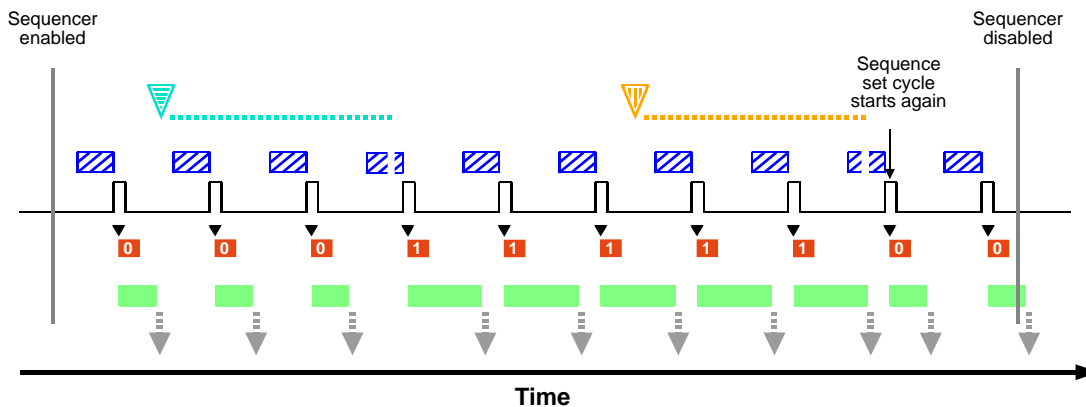

Fig. 115: Sequencer in Controlled Sequence Advance Mode with the SequenceControlSource Set to Disabled and Asynchronous Advance and Restart
The following use case (see also Figure 115) illustrates the operation of the sequencer in controlled sequence advance mode with the SequenceControlSource set to Disabled. Sequence set advance proceeds in ascending sequence set index numbers subject to asynchronous advance commands. After one sequence set cycle is complete, another one starts. Sequence set cycle restarts are subject to asynchronous restart commands.
- When the AsyncAdvance command becomes effective, the camera happens to be in "waiting for frame start trigger" status. The parameter values of the next sequence set, i.e. of sequence set 1, are loaded into the active set. Note that the camera briefly exits the "waiting for frame start trigger" status while the parameter values of sequence set 1 are loaded into the active set (see also Figure 115).
- When the AsyncRestart command becomes effective, the camera happens to be in "waiting for frame start trigger" status. The parameter values of sequence set 0 are loaded into the active set. Note that the camera briefly exits the "waiting for frame start trigger" status while the parameter values of sequence set 1 are loaded into the active set (see also Figure 115).